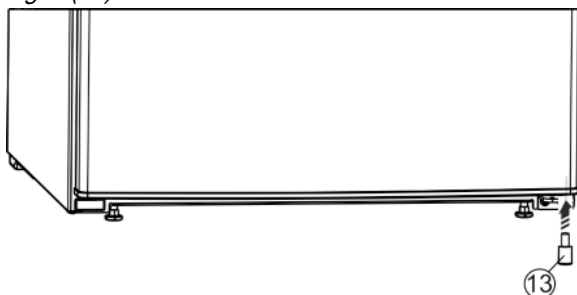

Fig. 11
- ▶ Insert the spacer *Fig. 11 (13)* back under the right-hand side of the door, as this is important for the stability of the appliance.